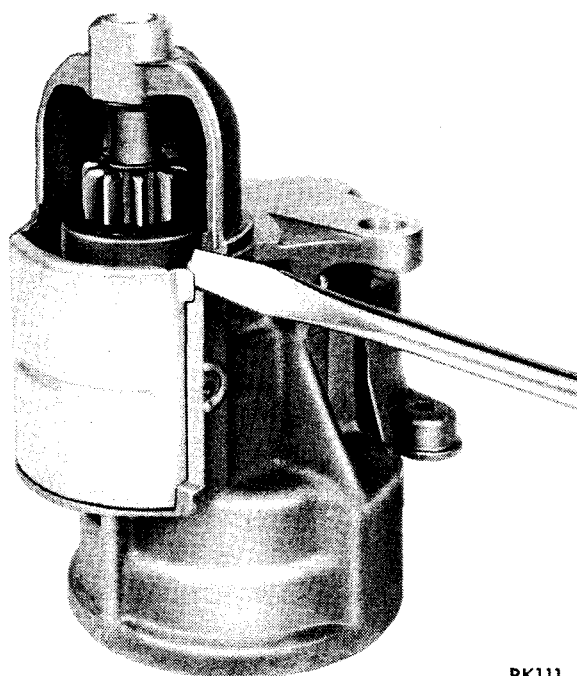

Fig. 14—Removing Dust Cover
(15) Remove dust cover from gear housing (Fig. 14).